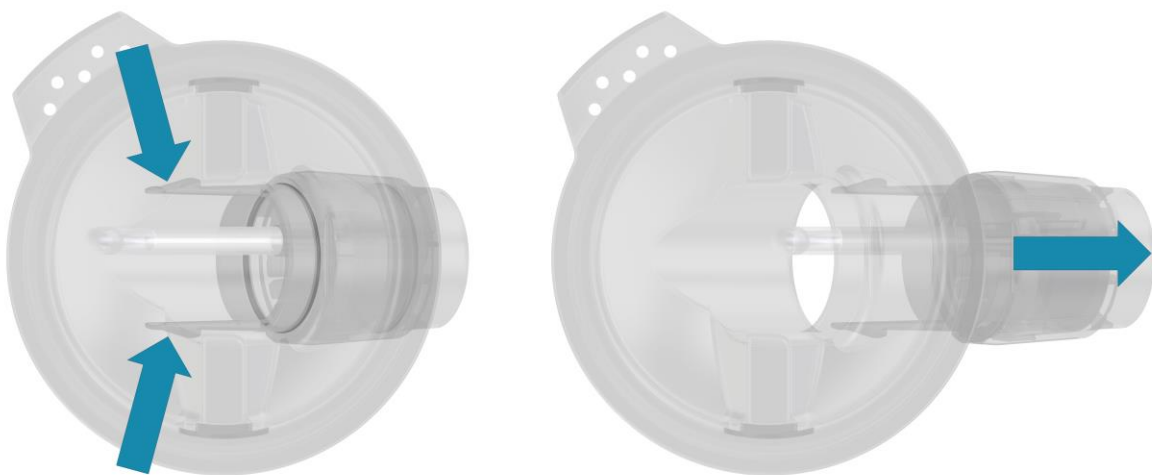

Figure 7 – Detaching the breathing regulator
- ◆ Detach the breathing regulator by gently pressing the two tabs as shown in **FIGURE 7**.